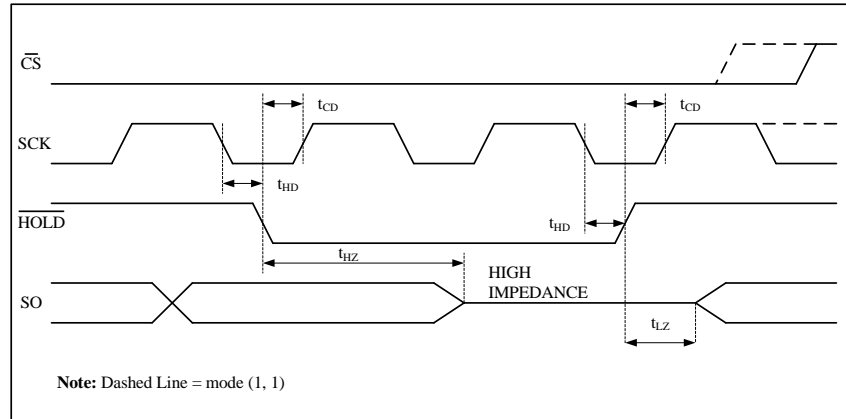

Figure 13
The $\overline{\text{HOLD}}$ input can be used to pause communication between host and M95M01. To pause, $\overline{\text{HOLD}}$ must be taken low while SCK is low (Figure 13). During the hold condition the device must remain selected ($\overline{\text{CS}}$ low). During the pause, the data output pin (SO) is tri-stated (high impedance) and SI transitions are ignored. To resume communication, $\overline{\text{HOLD}}$ must be taken high while SCK is low.